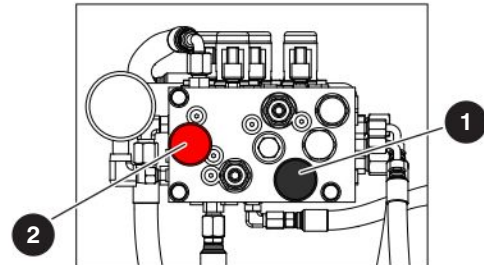

*Figure 15 Drive-bypass valve*
3. Find the drive-bypass valve on the inboard side of the drive pump. Loosen the valve stem (item ① - identified with yellow paint - *Figure 15*) 90 degrees clockwise to bypass the drive pump.